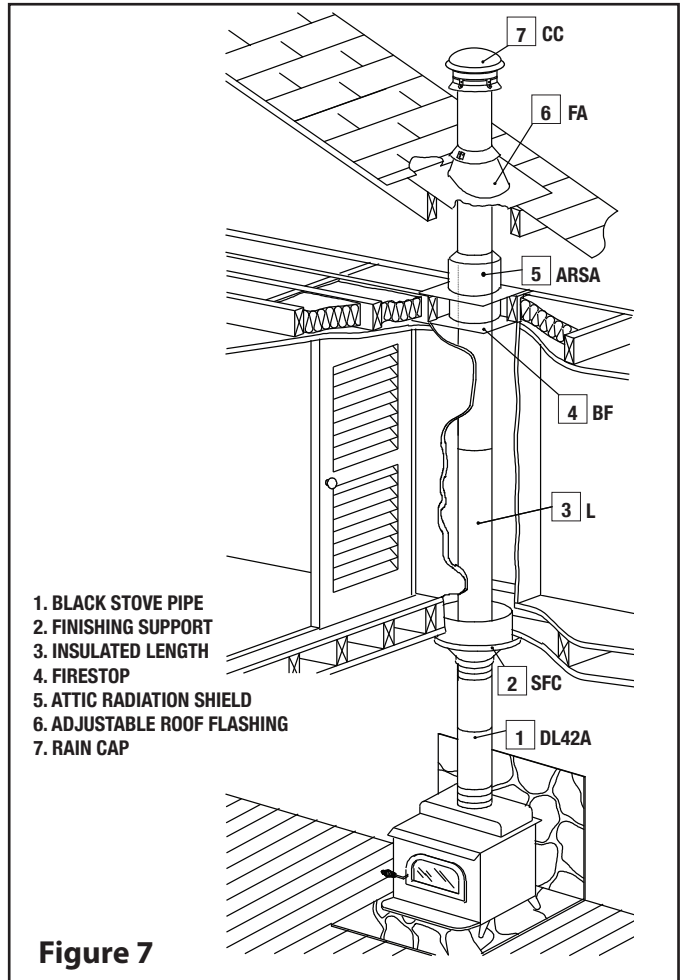

Figure 7
Step 4. Put this first chimney length in the support. Turn it clockwise to lock it in place (see Figure 7).